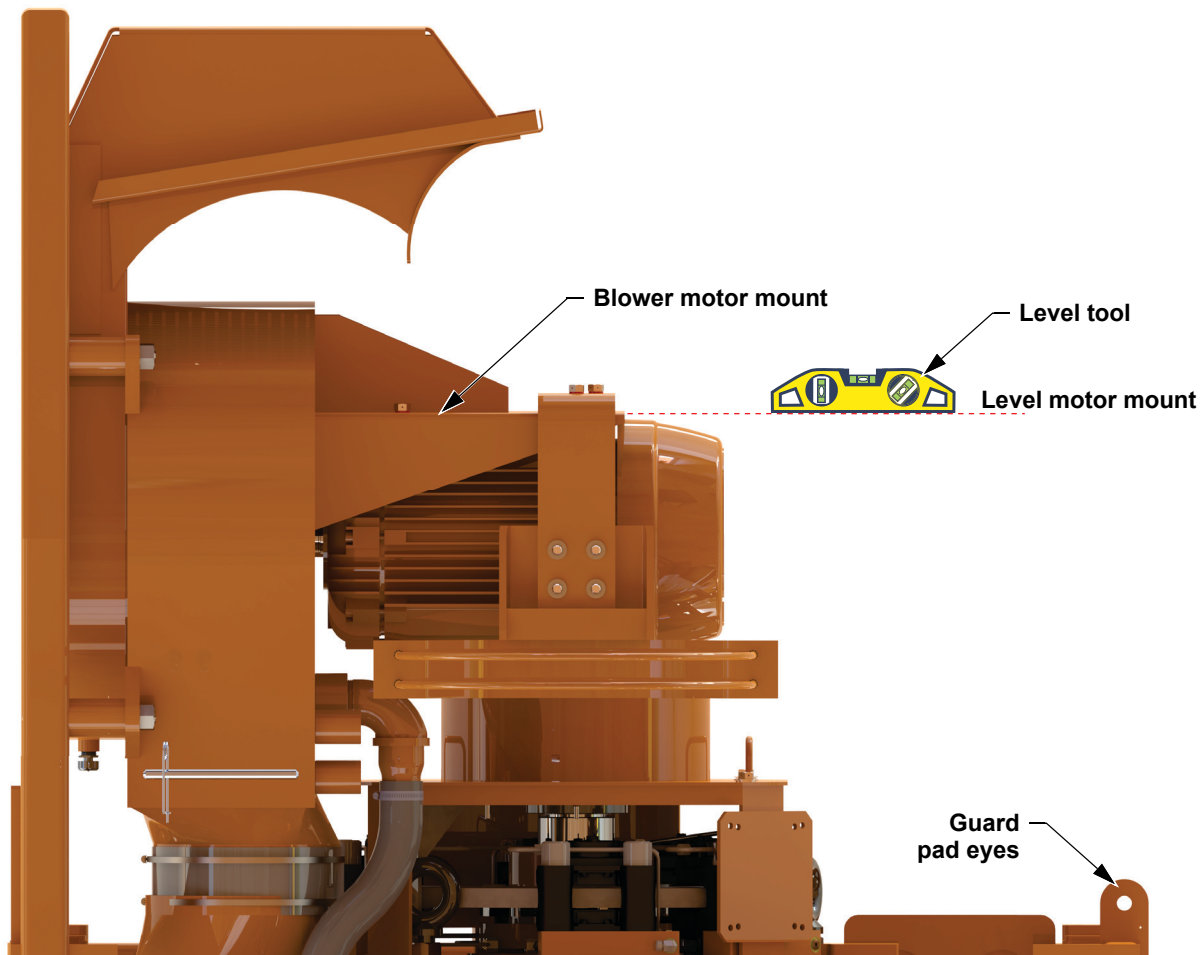

Figure 4: Top Drive in Vertical Orientation
1. Prior to installing the blower support arm assembly, ensure the top drive is in a vertical orientation and that the blower motor mount is parallel to the ground. Verifying whether the surface is level by placing a level tool on the blower motor mount as shown in Figure 4.